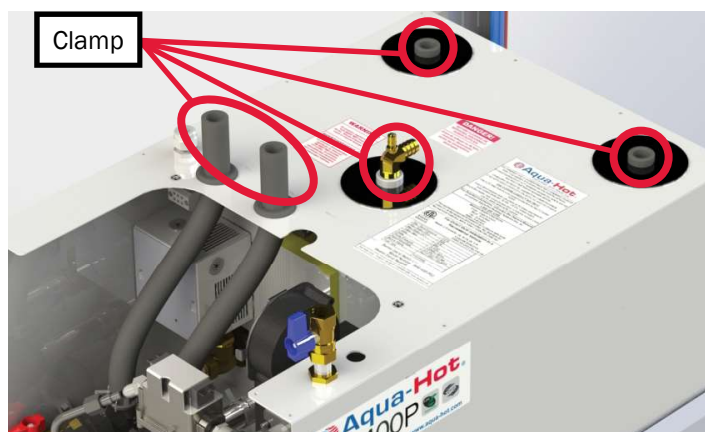

Figure 15
3. Clamp the zone hoses shut to prevent the zones from draining into the Aqua-Hot. Reference Figure 15.
1. Clamp the zone hoses shut to prevent the zones from draining into the Aqua-Hot. Reference Figure 15.